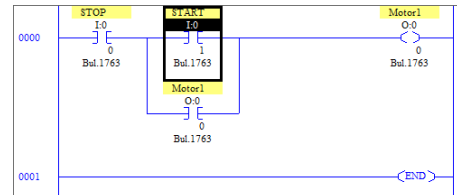

Figure 4: Motor control ladder logic
Figure 4.: (Left) Schematics of a motor circuit. Pushing Start switch (NO) completes the controls circuit and energize relay coil A. That in turn activates all associated contacts A and Ax. Since Ax is in parallel with NO, the circuit is closed coil A is continuously energized. When Stop switch (NC) is pressed, the circuit breaks and coil A is de-energized hence opening all contacts. (Right) Fill out the actual connection diagram following the circuit on the left. The dotted lines are pre-wired connections.
- f. Add Turn on a bit (ON) to turn on the output.
- i. Test your program for effort from Edit >> Verify file. Fix if any error is displayed. Your program should look like similar to figure 4.